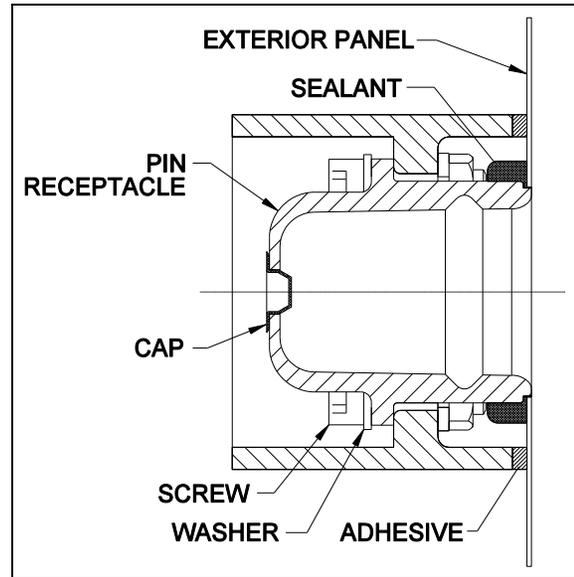
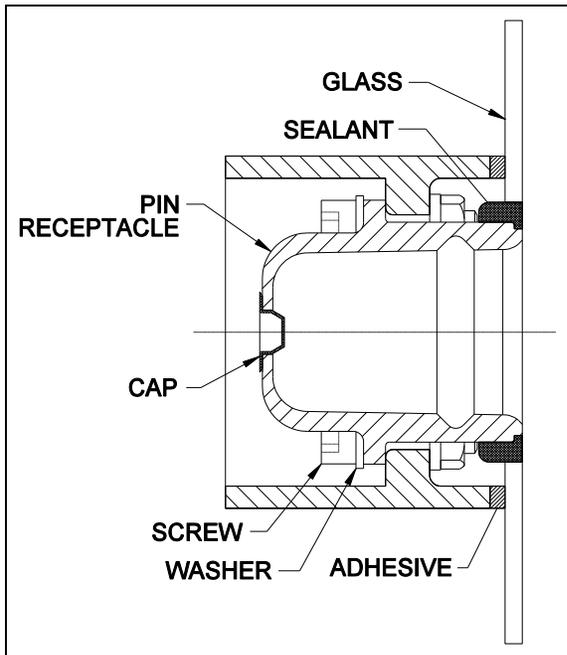

FIGURE 16 : PIN RECEPTACLE ON STAINLESS STEEL PANELS
FIGURE 15 : PIN RECEPTACLE ON GLASS
7. Apply black Sika 222 UV or equivalent product on the glass surface contact with the pin receptacle (figure 15), and black Sika 221 or equivalent product on the panel surface contact with the pin receptacle (figure 16).